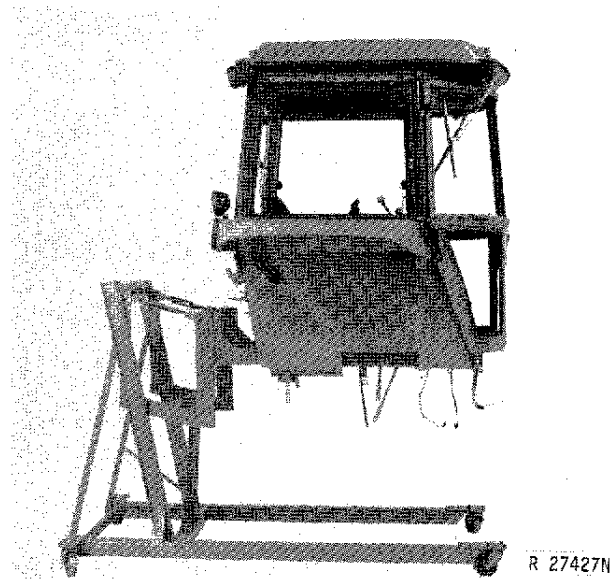

Fig. 11 - Sound-Gard Body Removed from Tractor
37. Remove Sound-Gard Body and place on support stand (Fig. 11).